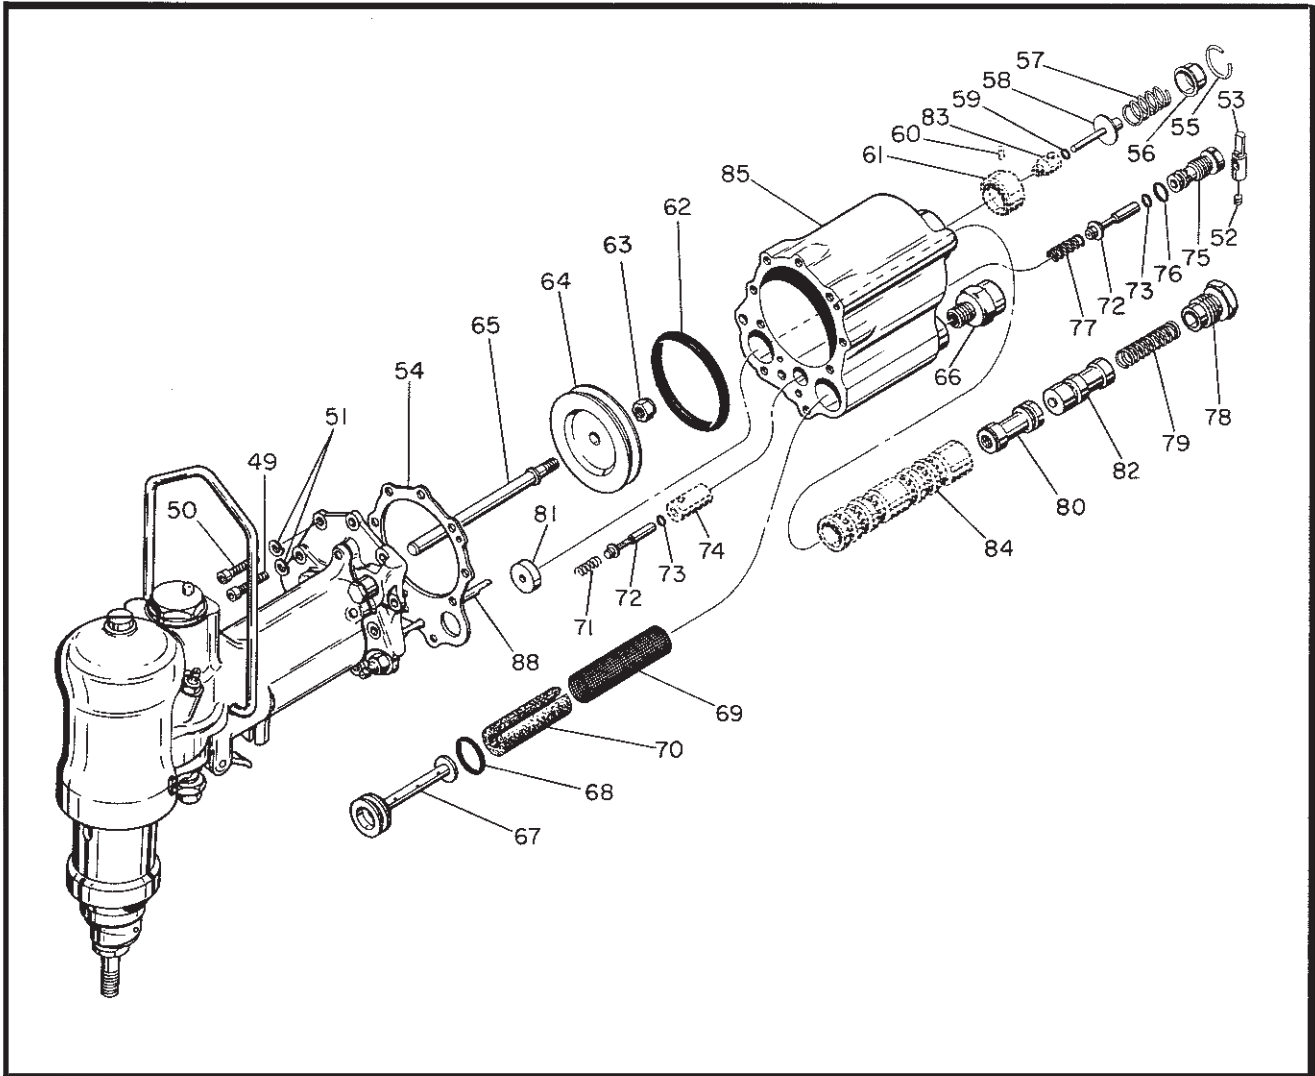
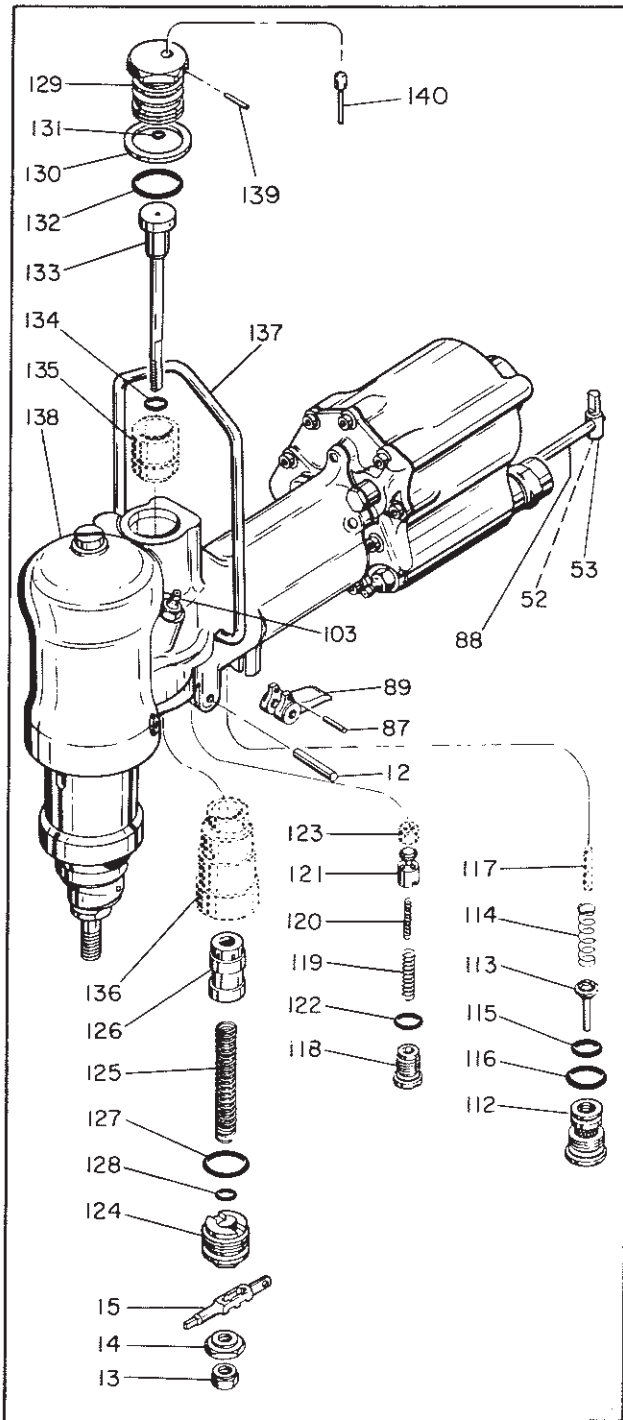

Figure 7. Pump Cylinder Group
Figure 9. Handle and Valve Group
3. Pump Cylinder Group. (See figure 7.)
5. Handle and Valve Group. (See figure 9.)
1. Do not remove the bushings, shown in phantom on the exploded views, (figures 7, 8, and 9), except when inspection reveals extensive damage or wear. To remove a particular bushing, select the thread tap and extractor, or drift, from the special tools listed in figure 10. Thread the bushing if in a blind hole. Note the alignment of all internal ports and passage ways. New bushing must match this alignment when installed. Remove all O-rings and heat the forging to 240° - 270°F. Pull out the bushing with the appropriate extractor or push out with a drift. Note that the holding piston bushing (135, figure 9) must be removed before adequate space is available for a drift to press out the pressure relief valve bushing (136).
1. Handle and Valve Group. (See figure 9.)